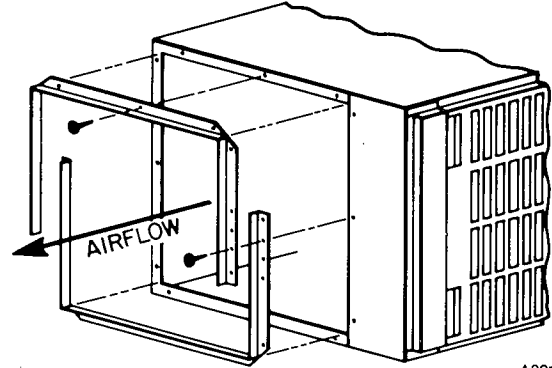

Fig. 9—Duct Flange Installation
- a. Install field-supplied duct flanges as shown in Fig. 9.